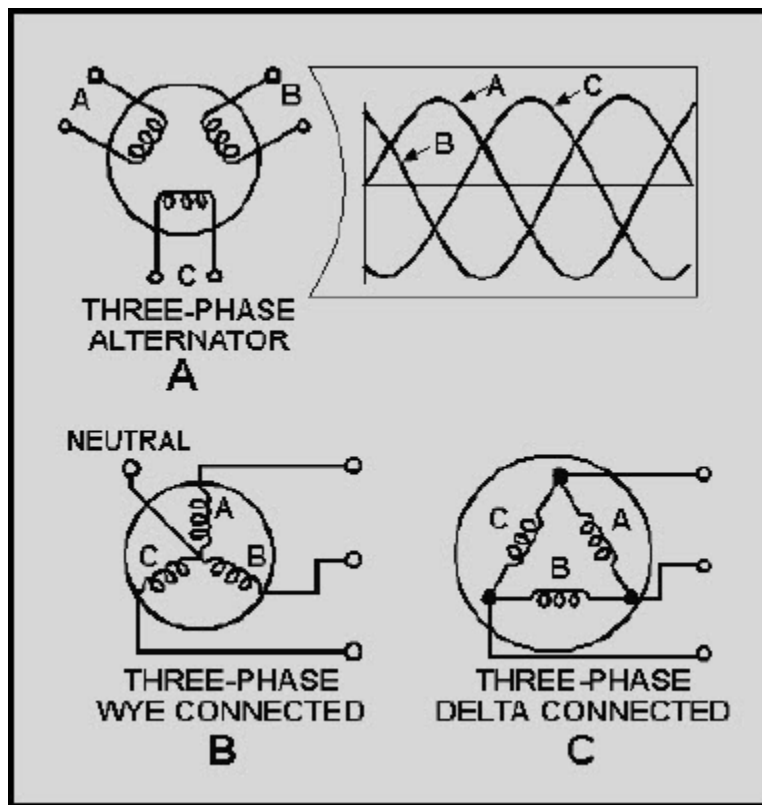

Figure 3-8 Three-phase alternator connections
The three-phase alternator, as the name implies, has three single-phase windings spaced such that the voltage induced in any one phase is displaced by 120° from the other two. A schematic diagram of a three-phase stator showing all the coils becomes complex, and it is difficult to see what is actually happening. The simplified schematic of figure 3-8, view A, shows all the windings of each phase lumped together as one winding. The rotor is omitted for simplicity. The voltage waveforms generated across each phase are drawn on a graph, phase-displaced 120° from each other. The three-phase alternator as shown in this schematic is made up of three single-phase alternators whose generated voltages are out of phase by 120° . The three phases are independent of each other.
Rather than having six leads coming out of the three-phase alternator, the same leads from each phase may be connected together to form a wye (Y) connection, as shown in figure 3-8, view B. It is called a wye connection because, without the neutral, the windings appear as the letter Y, in this case sideways or upside down.
A three-phase stator can also be connected so that the phases are connected end-to-end; it is now delta connected (fig. 3-8, view C). (Delta because it looks like the Greek letter delta, Δ .) In the delta connection, line voltages are equal to phase voltages, but each line current is equal to 1.73 times the phase current. Both the wye and the delta connections are used in alternators.